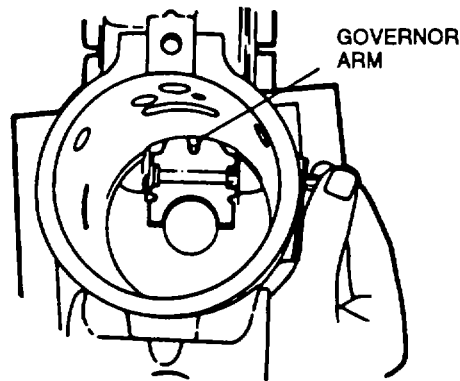

FIGURE 3-94. Installing Governor Arm
- aj. Place governor arm (44, FIGURE 3-64) into Position in housing. Insert governor shaft (78) through hole in housing so knife edge mates with groove in governor arm, refer to FIGURE 3-94.